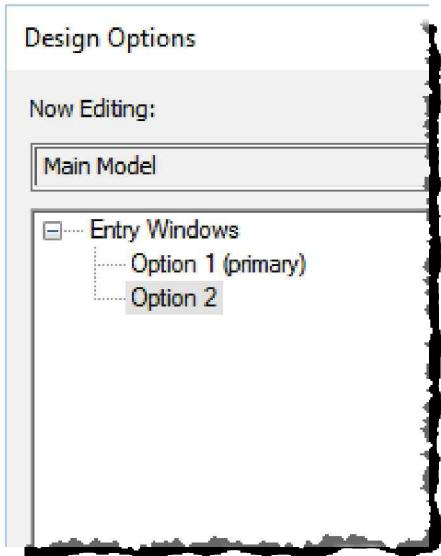

FIGURE 10-5.5
7. With the *Entry Windows* option set selected, click **New** in the *Option* area (Figure 10-5.5).